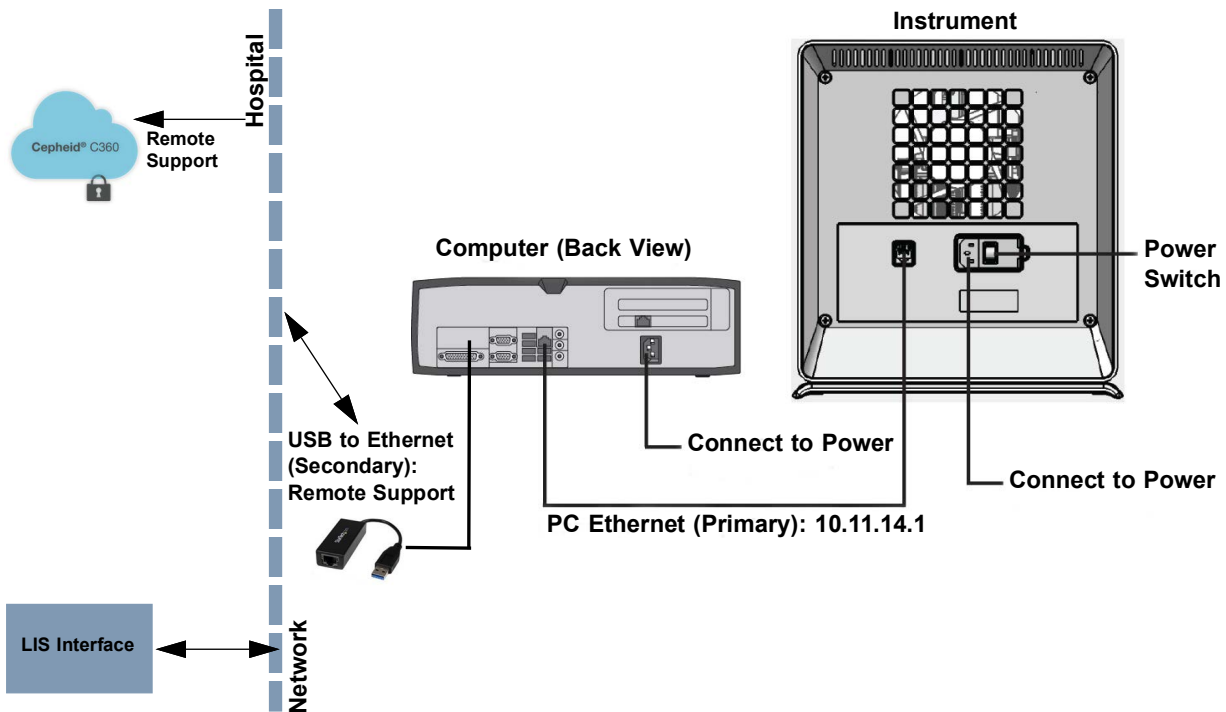
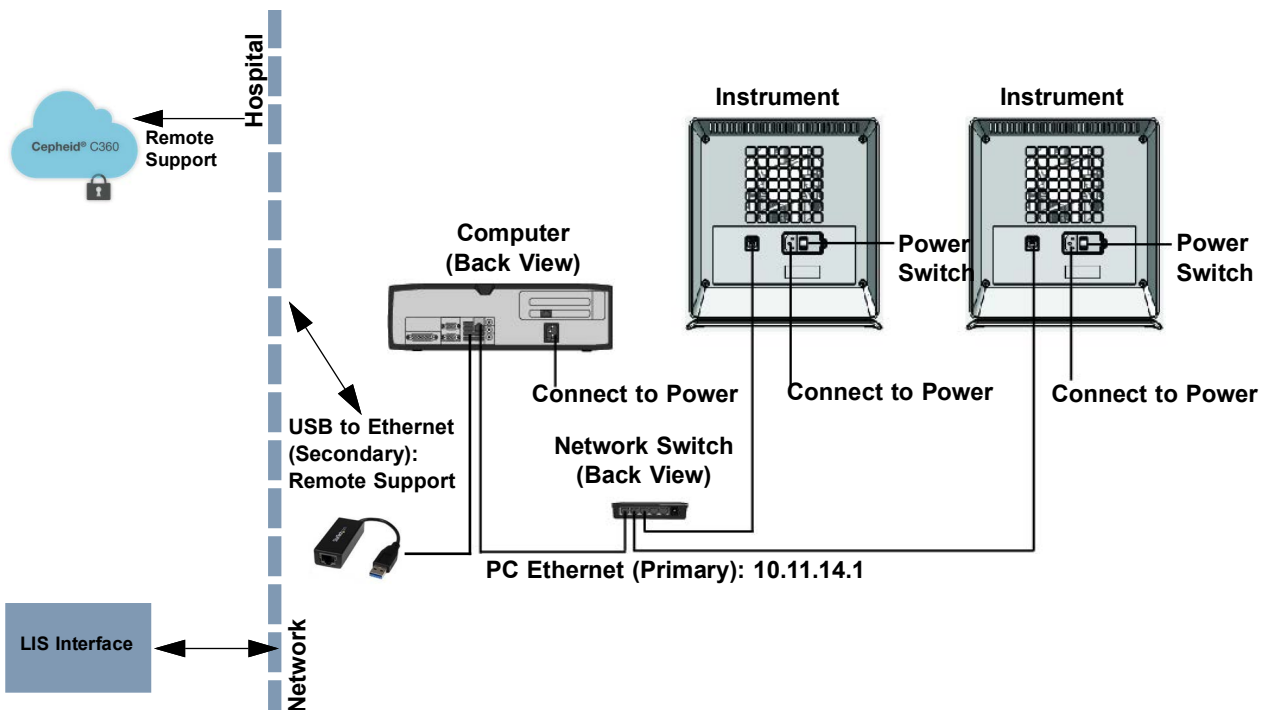

Figure 2-9. Connecting GX-IV Instrument to C360
Figure 2-10. Connecting Multiple GX-IV Instruments to C360
3. Confirm that the primary Ethernet connection from the computer to the Instrument (see Figure 2-9) or Network Switch (for multiple instruments as shown in Figure 2-10) uses IP address **10.11.14.1**.